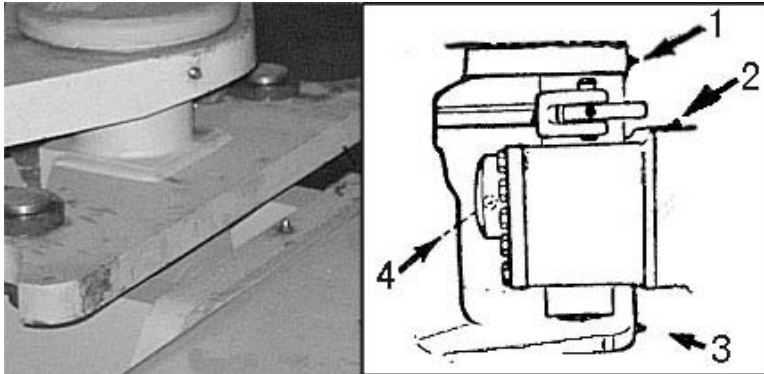

Figure 3-11
3.4.2.2 Lubricate the parts of the articulation mechanism (figure 3-11)